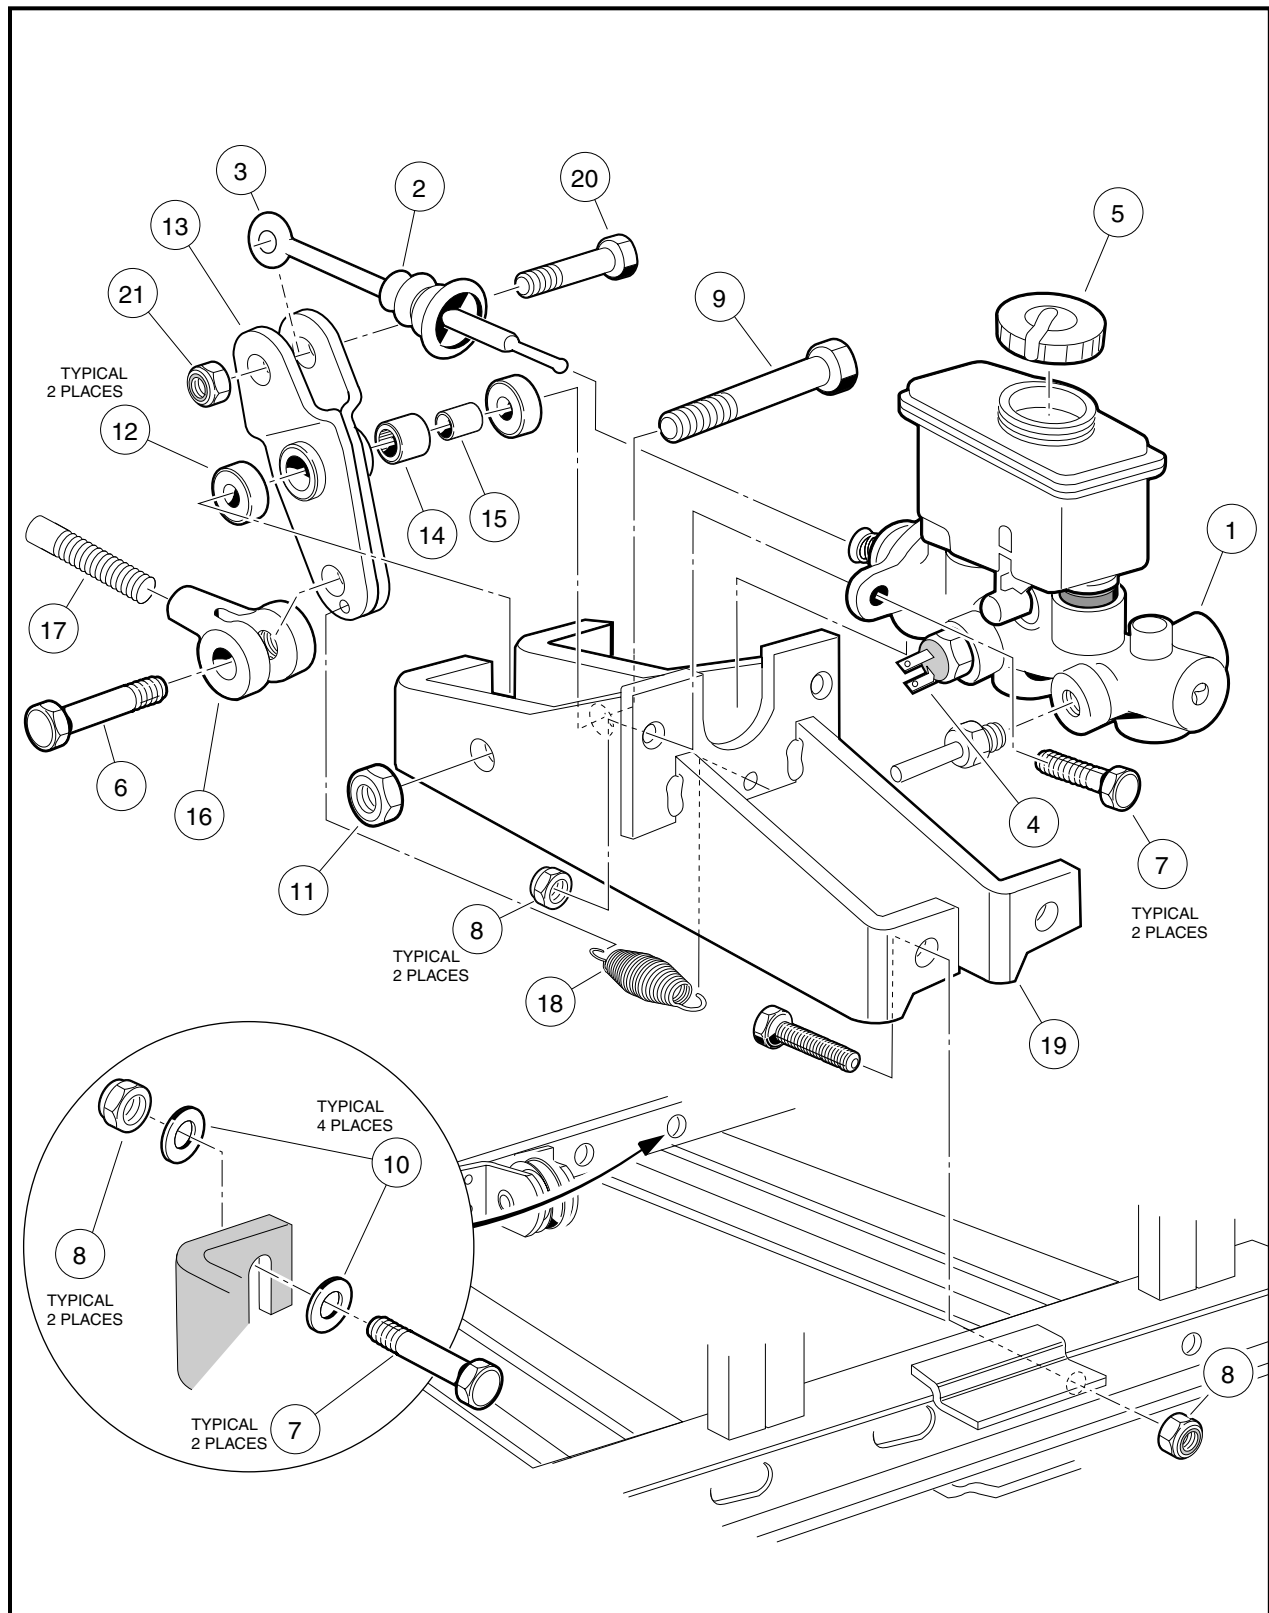

Figure 6a-23 Master Cylinder
4. Remove each wheel and gently adjust the clearance between the brake shoes and brake drum by turning each of the two adjusters on the brake cluster as shown (**Figure 6a-16, Page 6a-19**). Use a torque wrench and a Torx #T-27 driver or hydraulic brake adjuster (CCI P/N 102169401). **See following CAUTION.**
- **Do not apply more than 65 in-lb (7.3 N·m) of torque to any of the adjuster bolts. Overtightening the adjuster bolts could result in damage to the brake cluster components or the separation of the bolt (4) from the adjuster (3) (Figure 6a-3, Page 6a-4 or Figure 6a-21, Page 6a-25).**
- **Front Brakes Only:** Connect the two hose fittings from a vacuum type brake bleeder to the brake bleeder valves on the back of each of the front wheel brake cluster assemblies (**Figure 6a-24, Page 6a-36**). Proceed to step 7.